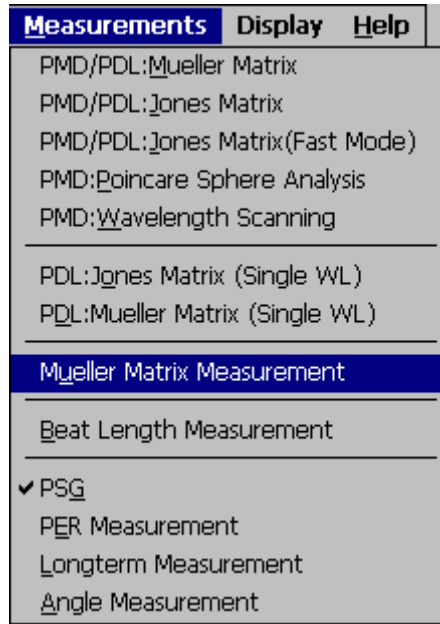

Figure 36 Mueller Matrix measurement selection
- Select **Mueller Matrix Measurement** from the **Measurements** menu at the top of the main interface screen (Figure 36).